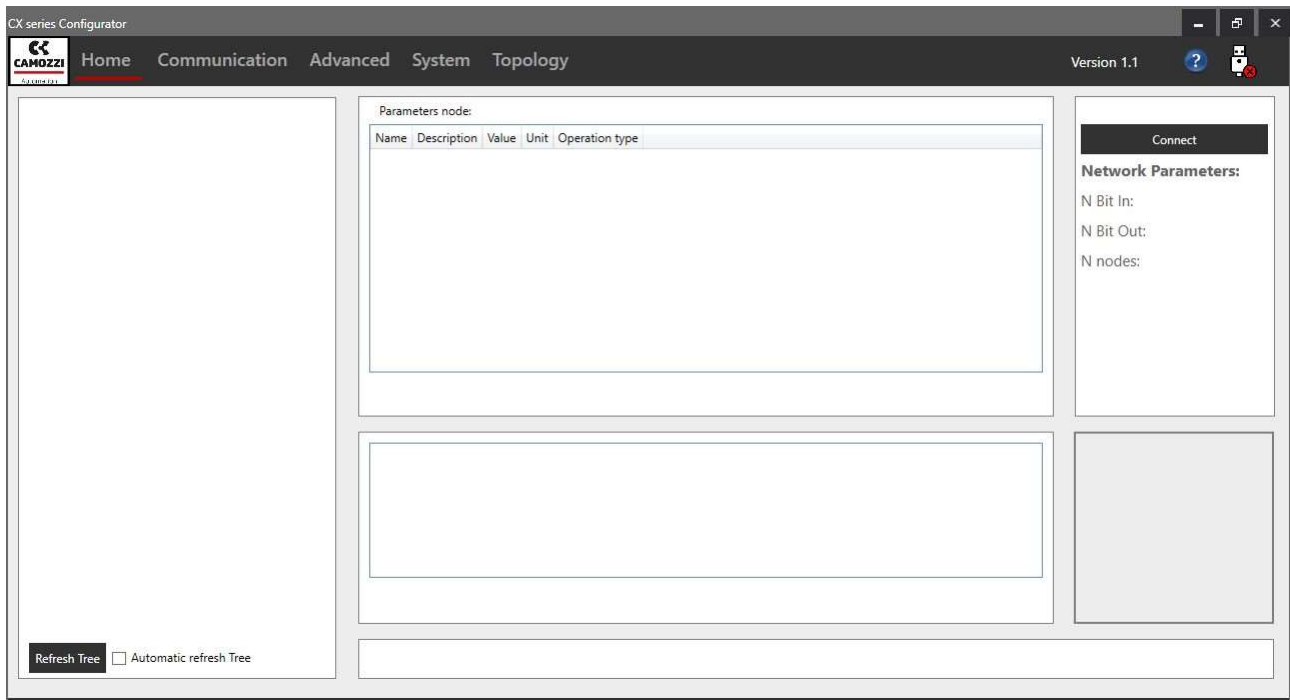

Figure 2: Menu Home.
- Home: it's the menu shown when the configurator is run (figure 2), contains all basic functionalities for read the hardware configuration.
Connected the USB cable, run the configurator and select the command “Connect” in the upper right part of home menu (figure 2). When a pop-up window appears (figure 3), then select the COM and select “Connect” command.